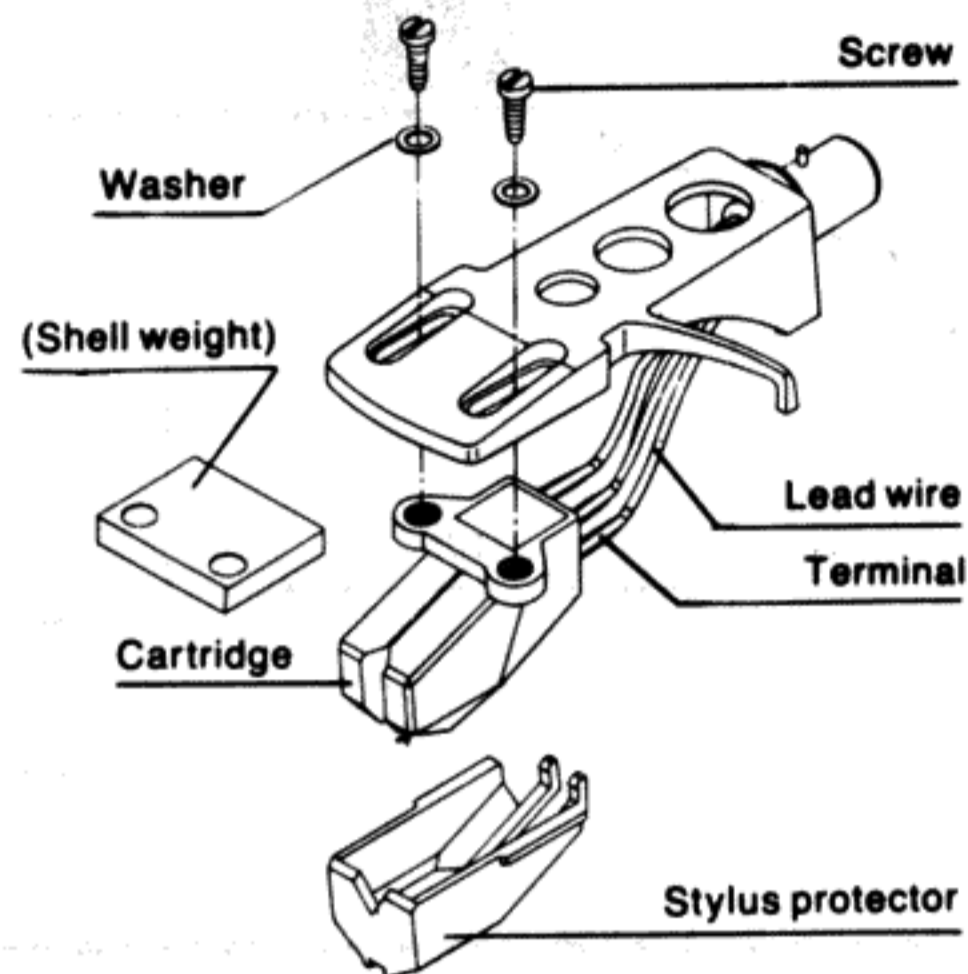

Fig. 16
2. Mount the cartridge in the headshell using the screws provided with the cartridge. (Fig. 16)